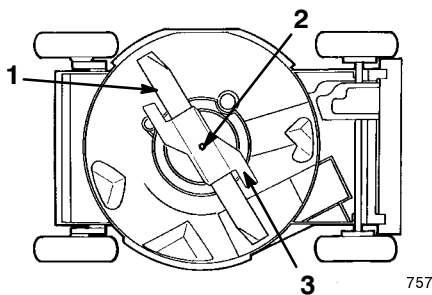

Figure 20
4. Tip the lawn mower onto its **right** side (air filter up) (Fig. 20).